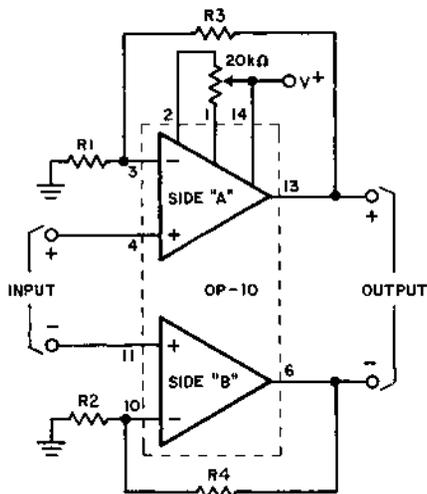

FIGURE 1
**INPUT OFFSET VOLTAGE MATCH ( $\Delta V_{OS}$ )** The difference between the offset voltages of side A and side B; ( $V_{OSA} - V_{OSB}$ ). In Fig. 1 if  $V_{OSA} = V_{OSB}$ , the net differential offset voltage at the output of the amplifier pair equals zero.
Reference to the circuit shown in Fig. 1, a differential-in, differential-out amplifier, shows how the reductions in error can be accomplished. Assuming the resistors used are ideally matched, the gain of each side will be identical; if the offset voltages of each amplifier are perfectly matched, then the net differential voltage at the amplifiers output will be zero. Note that the output offset error of this amplifier is not a function of the offset voltage of the individual amplifiers, but only a function of the *difference* (degree of matching) between the amplifiers' offset voltages. This error-cancellation principle holds for a considerable number of input referred error parameters — offset voltage, offset voltage drift, inverting and non-inverting bias currents, common-mode and power supply rejection ratios. Note also that the impedances of each input, both common-mode and differential mode, are extremely high and can also be tightly matched, an important feature not possible with single operational amplifier circuits. Common mode rejection can be made exceptionally high; this is especially important in instrumentation amplifiers where errors due to large common-mode voltages can be far greater than those due to noise or drift with temperature.
Offset trimming terminals are provided for each amplifier of the OP-10 — however, guaranteed performance over temperature can be obtained by trimming only one side (side A) to match the offset of the other for a net differential offset of zero. (See Fig. 1) This is due to the specific procedure used during factory testing of the devices; however, results which are essentially the same may be obtained by trimming side B to match side A, or by nulling each side individually.